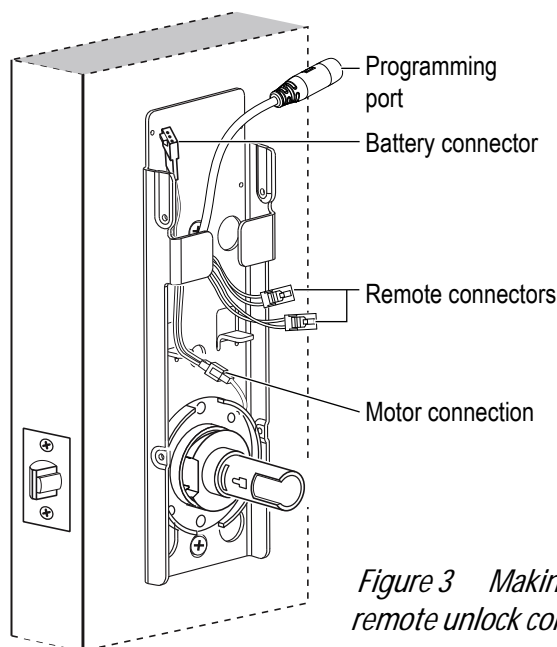

Figure 3 Making the remote unlock connection (cylindrical installation shown)
- 1 Cut the remote unlock wires to remove the epoxy sealant. Strip the remote unlock wires and the wires from the remote unlock switch. See Figure 3.